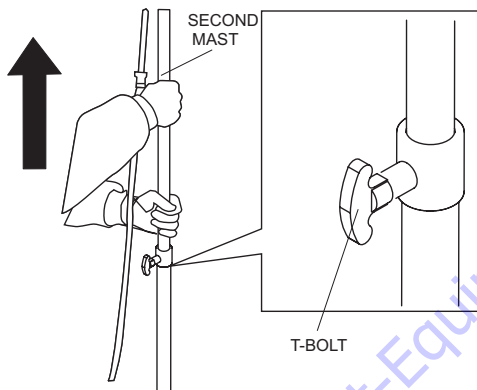

Figure 22. Raising the Second Mast
1. Raise the second mast to the desired height and tighten the T-bolt securely. See Figure 22.